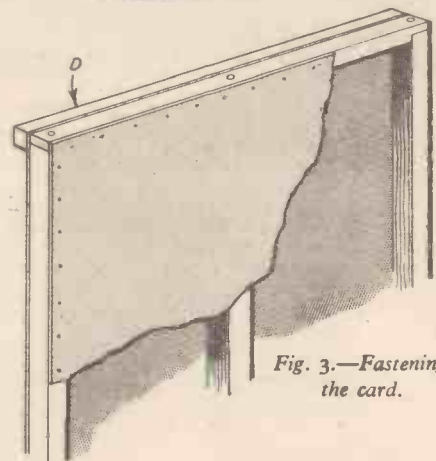

Fig. 3.—Fastening the card.
Fig. 3 (Left).—An executive's desk, designed by the author, in which the exterior is surfaced with Real-wood Formica and the interior with Birds Eye Maple Formica. All the veneering was carried out using a synthetic resin adhesive and without a press.
Strength is given by the card which is fastened by a series of small but large-headed nails round the frame as in Fig. 3.
Finally fit the strips (D) along the top and bottom edges of the back of the board (see Fig. 3). They are attached by a series of 1 1/2in. screws and the top one is for easy hanging on a picture rail.